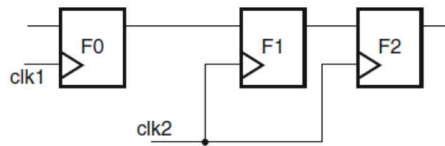

Fig. 1 2FF synchronizer
1. (a) Fig. 1 shows the basic 2 Flip-Flop synchronizer block diagram. Explain why a synchronizer is required in clock domain crossing (CDC) circuit. (5%)
- (b) Fig. 2 shows the pulse synchronizer which we used in Lab07. Different from the synchronizer in Fig. 1 which can pass a value, the pulse synchronizer can pass a pulse. Try to complete the following timing diagrams to verify it can pass a pulse between two clock domains either when clk1 is faster than clk2 (5%) and when clk1 is slower than clk2 (5%).